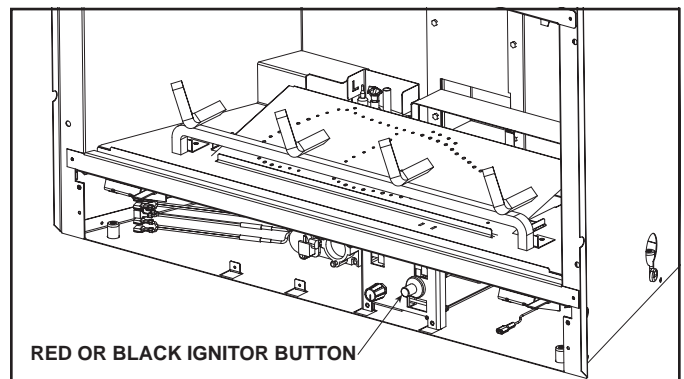

Figure 2.4 Ignitor Button
- A standing pilot ignition will have a red or black ignitor button (refer to Figure 2.4).